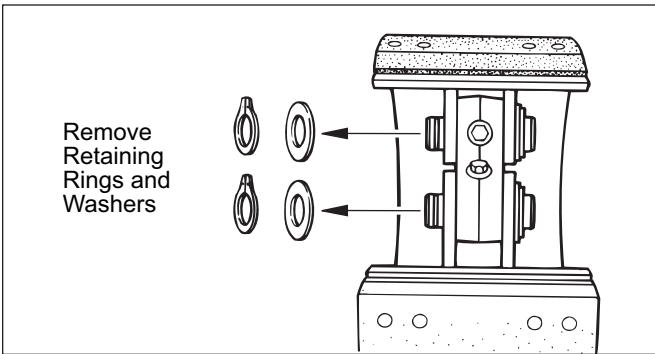

Figure 25. Retaining Ring and Washer Removal
3. Remove retaining ring and washer from drum side of each anchor pin. Refer to Figure 25.